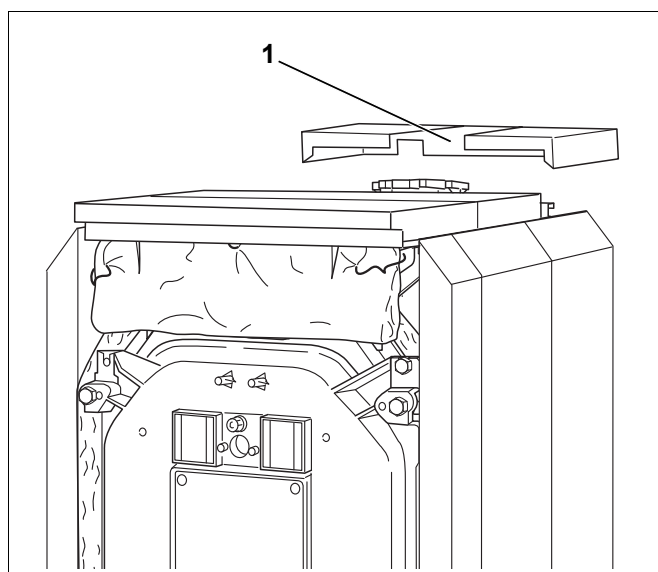

Fig. 54 Installing the rear cover
- Locate the edges and the notch for the boiler flow of the rear boiler cover (Fig. 54, **[1]**) forward onto the side panels.